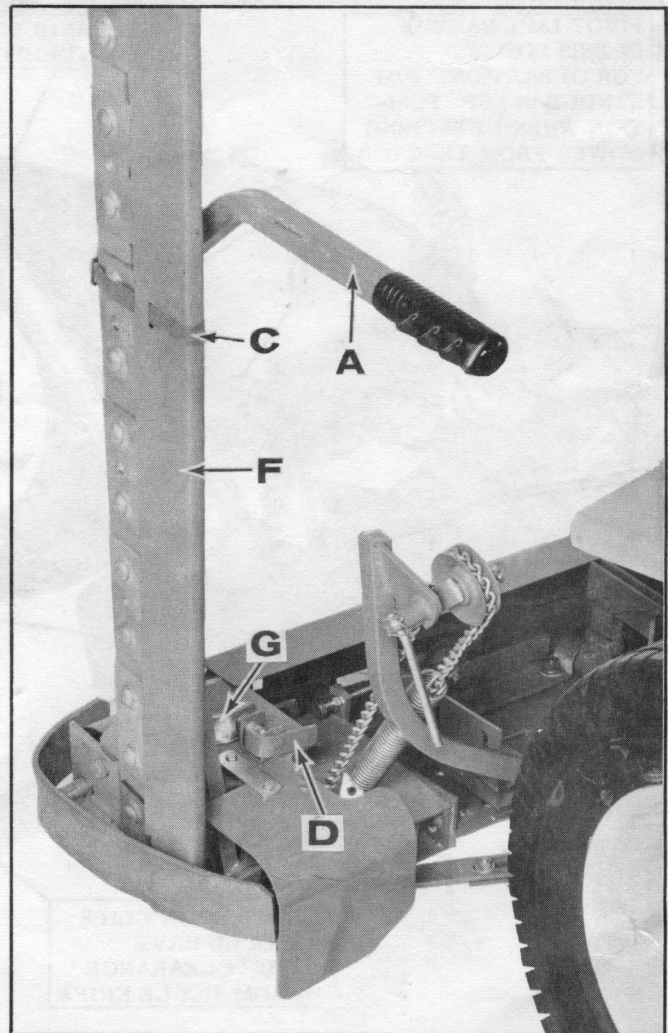

Fig. 3
Turn PTO and key switch to "OFF." Install sickle knife cover (F) using retaining strap to secure cover to bar. Set lift handle in transport position (A). Stand in back of mower, raising mower bar with right hand to vertical position. Insert transport pin (D) as illustrated by sliding pin down from vertical to horizontal position as shown. Let pin slide through hole in strap (G) to lock in place. Avoid sudden or sharp turns with mower in transport position (Fig. 3).